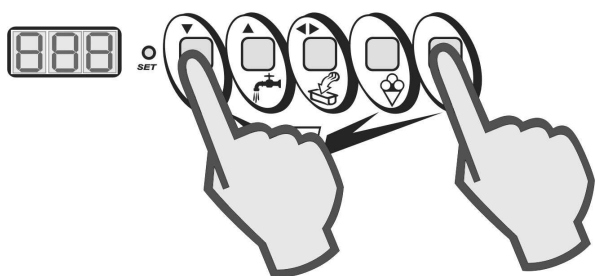

Fig.4
- With the cycle in progress, press the STOP and SEMI-AUTOMATICO (SEMI-AUTOMATIC) keys again (Fig. 4).